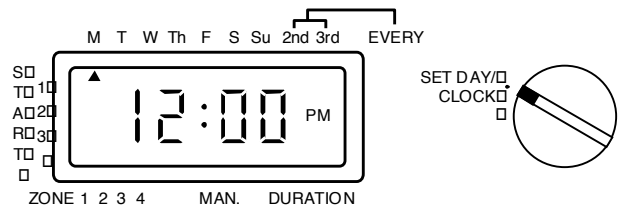

Figure 6
3. Press **NEXT** to advance the blinking indicator to the current day of week. (See Figure 6.)